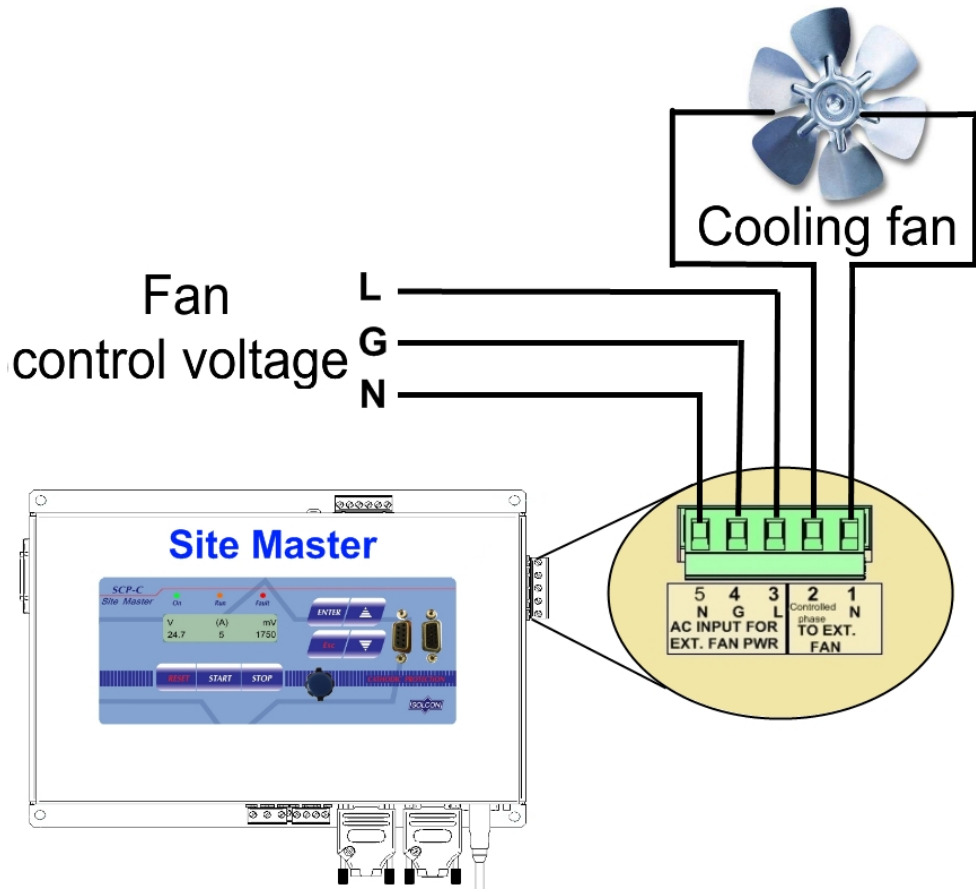

Figure 15 – Fan Control by the Site Master
- Additional fan control can be connected to the Site-Master as indicated in Figure 15 page 26.